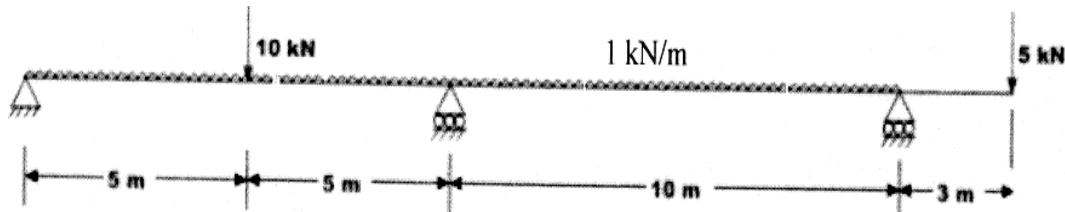

Figure 1
11. (a) A continuous beam ABCD is carrying a uniformly distributed load of 1 kN/m over span ABC in addition to concentrated loads as shown in Figure 1. Calculate support reactions. Also, draw the bending moment and shear force diagrams. Assume EI to be constant for all members. (13)